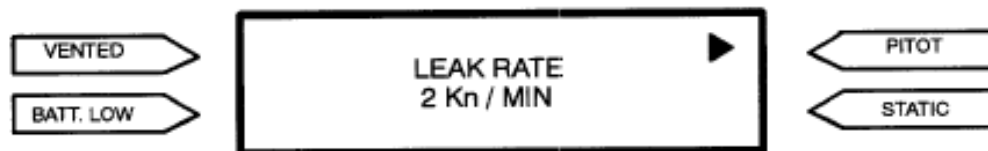

Figure 19 Leak Rate Display
- F. In this mode, the system will continue to control to the Set Point until the STOP key is pressed to enter the Pressure Monitor Mode. As with the Leak Test Mode, the Pressure Control Mode allows the Operator to restart the test and to increase or decrease the value of the Set Point while the system is pressurised. When monitoring pressure, the SEL key can be used to toggle between the pressure monitor display and a leak rate display (*Figure 19*).